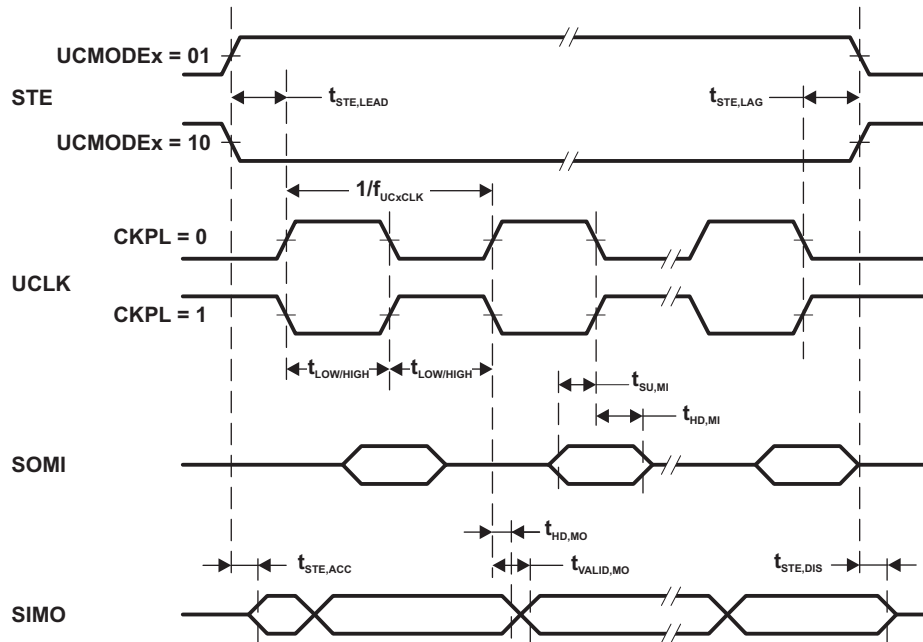

Figure 5-10. SPI Master Mode, CKPH = 0
- (1) fUCxCLK = 1/2tLO/HI with tLO/HI = max(tVALID,MO(eUSCI) + tSU,SI(Slave), tSU,MI(eUSCI) + tVALID,SO(Slave)). For the slave's parameters tSU,SI(Slave) and tVALID,SO(Slave) refer to the SPI parameters of the attached slave.
- (2) Specifies the time to drive the next valid data to the SIMO output after the output changing UCLK clock edge. Refer to the timing diagrams in Figure 5-10 and Figure 5-11.
- (3) Specifies how long data on the SIMO output is valid after the output changing UCLK clock edge. Negative values indicate that the data on the SIMO output can become invalid before the output changing clock edge observed on UCLK. Refer to the timing diagrams in Figure 5-10 and Figure 5-11.